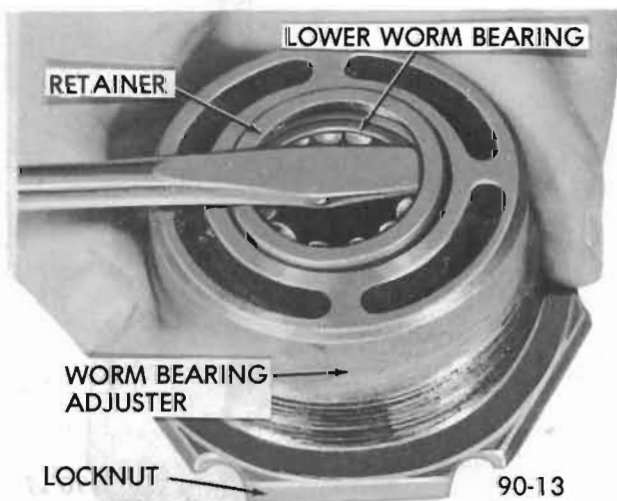

Figure 90-7 Removing Lower Worm Bearing Retainer
9. Remove lower worm bearing from adjuster by prying retainer out with a screwdriver. See Figure 90-7.
10. Remove ball return guide clamp and guides from ball nut. Turn ball nut over and rotate worm shaft back and forth until all balls (50) drop out into a clean cloth. Remove ball nut from worm shaft.